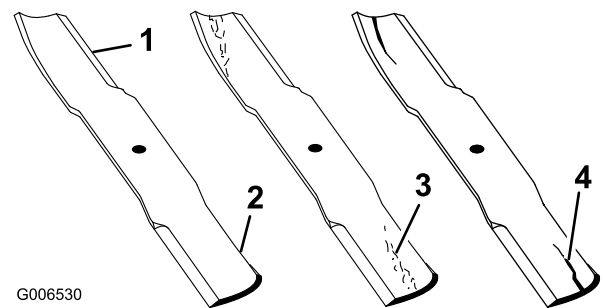

Figure 63
1. Inspect the cutting edges (Figure 63). If the edges are not sharp or have nicks, remove and sharpen the blades. Refer to Sharpening the Blades.
2. Inspect the blades, especially the curved area (Figure 63). If you notice any damage, wear, or a slot forming in this area (item 3 in Figure 63), immediately install a new blade.